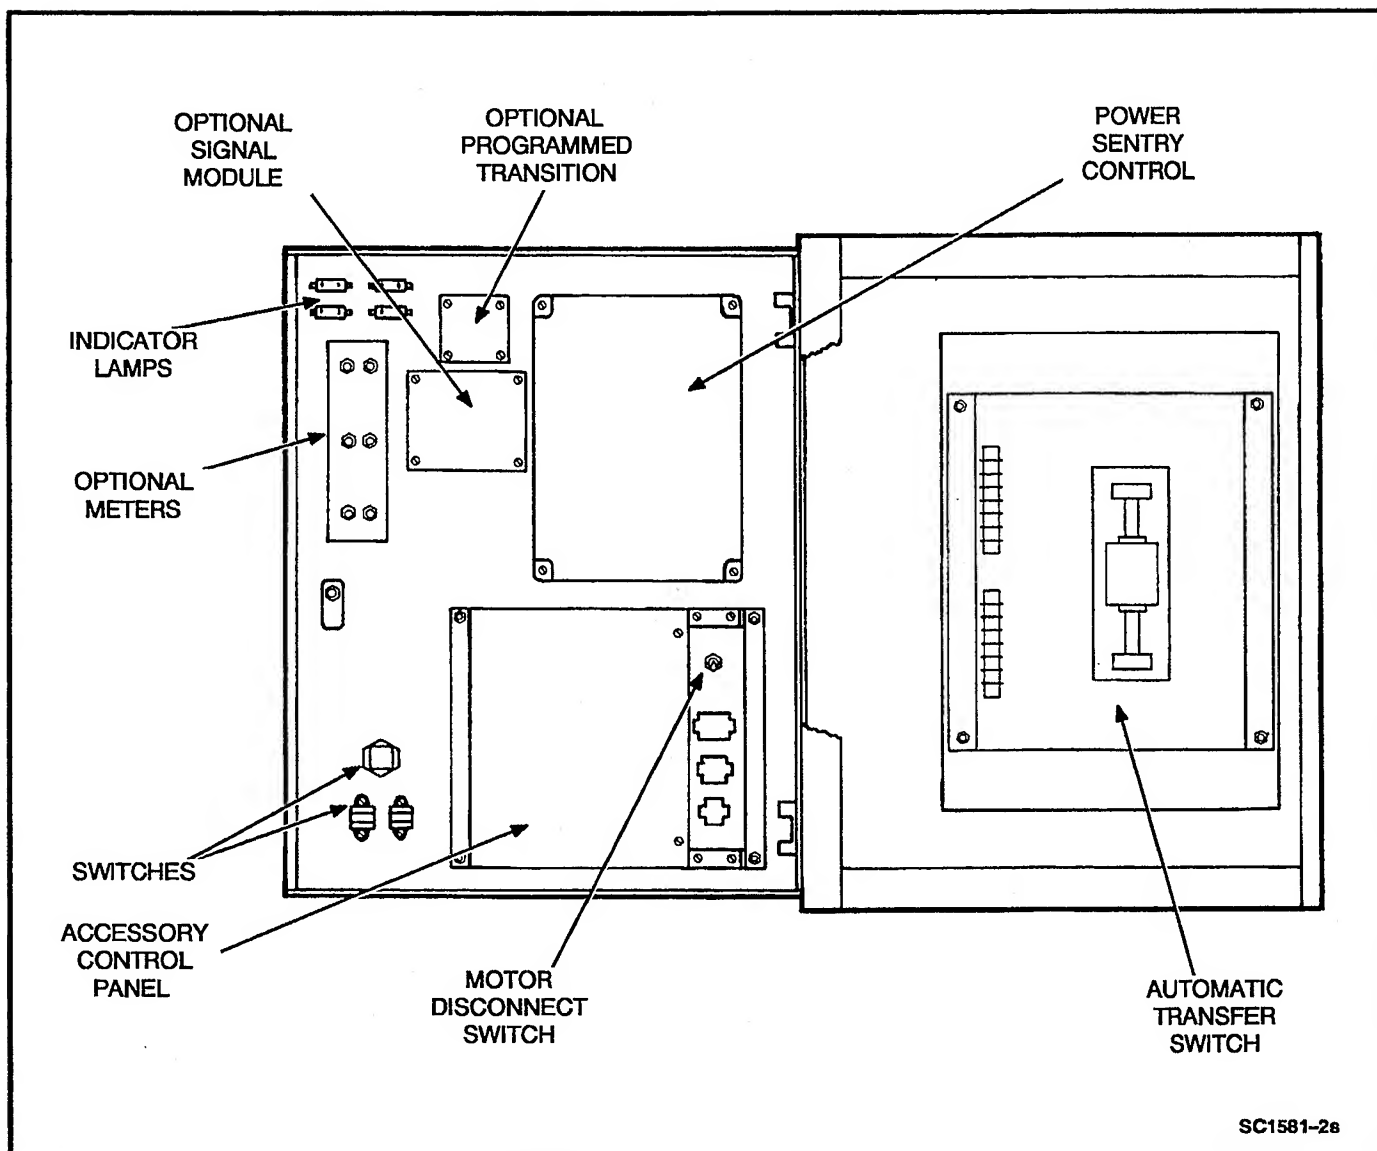

FIGURE 2-2. INTERIOR/COMPONENTS
The transfer switch (Figure 2-2) opens and closes the contacts that transfer the load between Normal and Emergency power. The transfer switch is mechanically interlocked to prevent simultaneous closing to both power sources. The main parts of the transfer switch discussed here are the contact assemblies, linear actuator, Motor Disconnect switch, and auxiliary contacts.
The most important component of the electronic control system is the Power Sentry control (Figure 2-2). The Power Sentry includes voltage sensing circuits, time delay circuits and control relays. There are also several adjustment potentiometers and indicator lamps on the Power Sentry. The adjustments must be performed only by qualified service personnel.
**Place the Motor Disconnect Switch (Figure 2-2) in the Off position when making adjustments. Return the switch to the Auto position after adjustments are completed.**